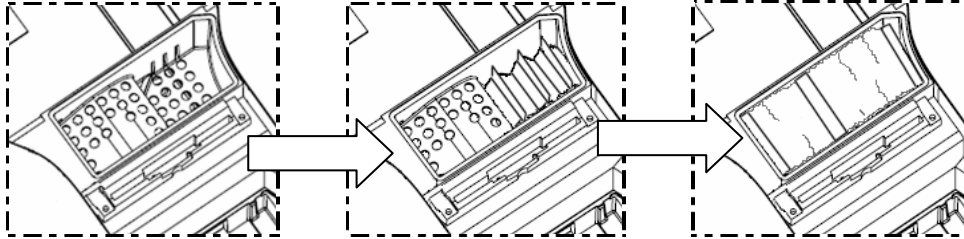

Figure 22 Stowing the desiccant packs
- Place the first three packs of desiccant upright in the recess on the right of the desiccant holder then, one at a time, lay the three remaining packs flat in the upper part of the holder (Figure 22).